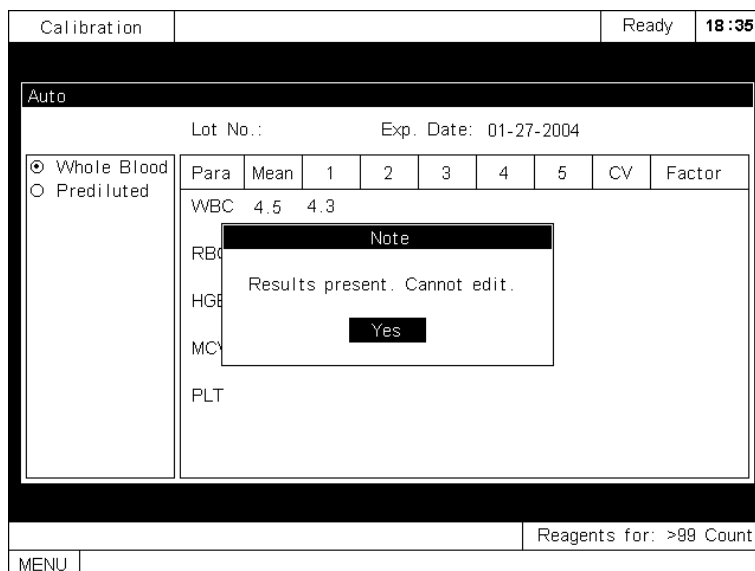

Figure5-15 Reject edit dialog box
- If calibration data (calibration results, CV or new factors) exist, when you press [F2], a dialog box will pop up to warn you, as Figure5-15 shows. Press [ENTER] to return to the **Auto calibration** screen.